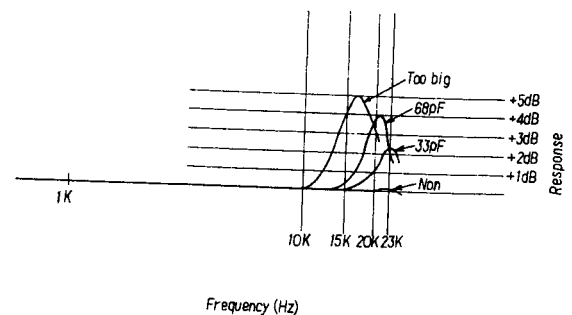

Fig. 7.20
- (5) Load a 15KHz P.B.F.R. tape (DA09002A) and play it back.
- (6) If the output of 15KHz shows the value within \pm 2dB, it shall be considered satisfactory.
- (7) Load a 20KHz P.B.F.R. tape (DA09001A) and play it back.
- (8) If 15KHz at (5) shows the value within \pm 2dB and 20KHz being less than -3dB, check shall be made on C101, 201 with 0 - 220PF. Refer to Fig. 7.20. "Compensation of Playback High Frequency Response".
- (9) Adjustment shall be made so that 10KHz, 15KHz and 20KHz will become flat when compared with 400Hz.
- (10) If the results are shown to belong to high, set R101, 201 to open -220K ohms.
- (11) Adjust the azimuth alignment to the maximum output with a 15KHz azimuth alignment tape (DA09004A).